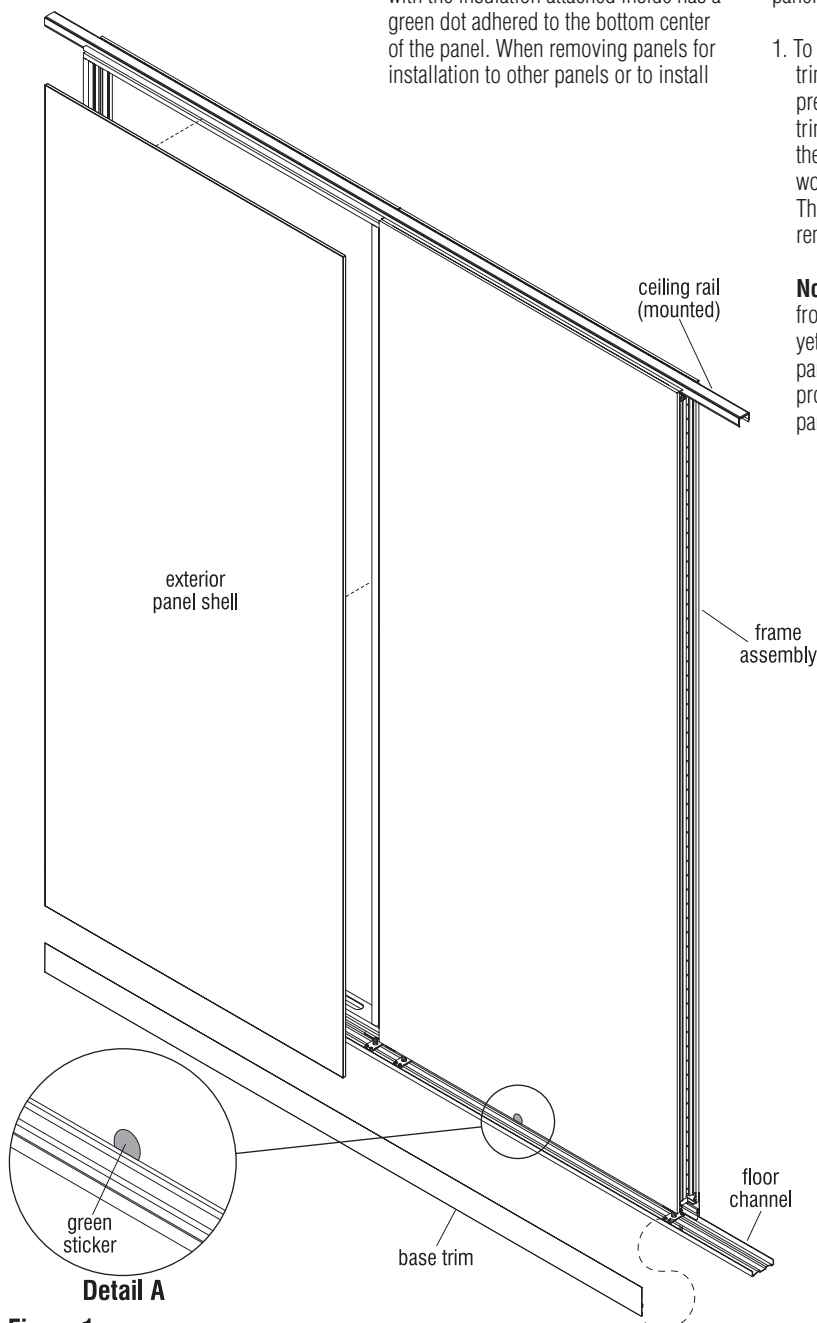
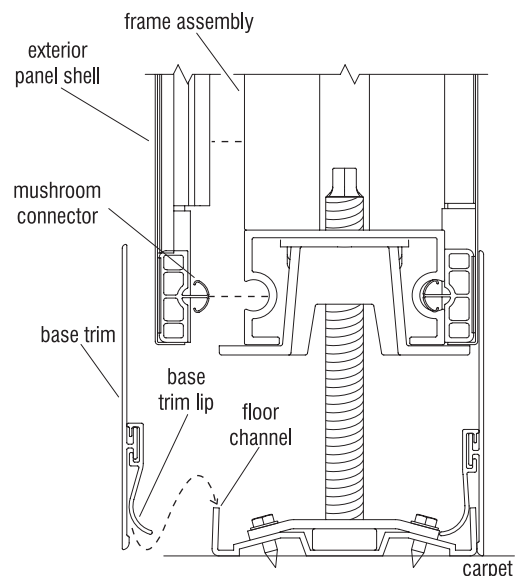

Figure 1
Figure 2
4. To install base trim, position the bottom, base trim lip over the edge of the floor channel and press down on the base trim so it sits slightly into the floor channel and flush against the panel shell (Figure 2). Using a base trim installation block (or "cheeseblock") and hammer, position the block over the top of the base trim and tap down on the block/trim to seat the trim into the channel. Work carefully along the entire length of the base trim until it is fully seated and uniform (Figures 1 & 2).